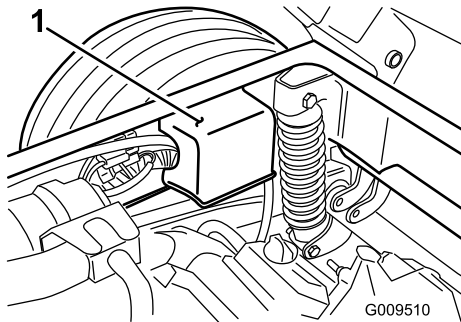

Figure 2
1. Locate the control cover on the right rear frame of the engine compartment (Figure 2).